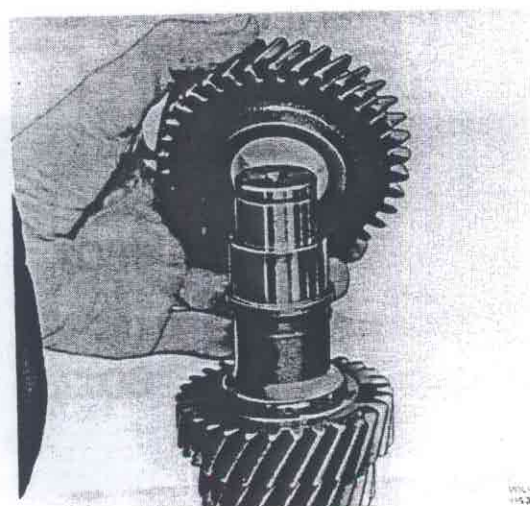

Fig. 43-92. Placing gear
2. Fit the cluster gear with the larger part of the hub facing downwards, Fig. 43-92. Press on the gear with 2022.